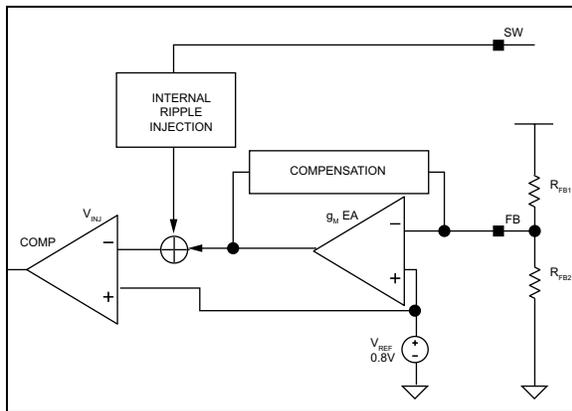

FIGURE 4-1: Output Voltage Sense via FB Pin.
Figure 4-1, in association with Equation 4-1, shows the output voltage is sensed by the MIC45116 feedback pin (FB) via the voltage divider R_{FB1} and R_{FB2} and compared to a 0.8V reference voltage (V_{REF}) at the error comparator through a low-gain transconductance (g_m) amplifier.